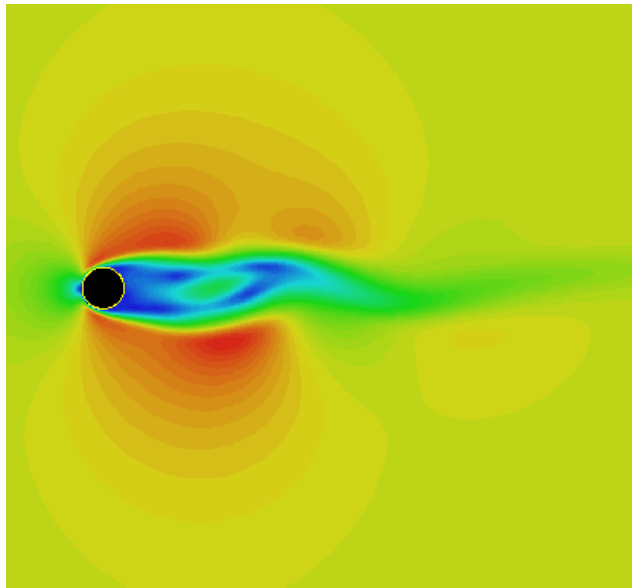
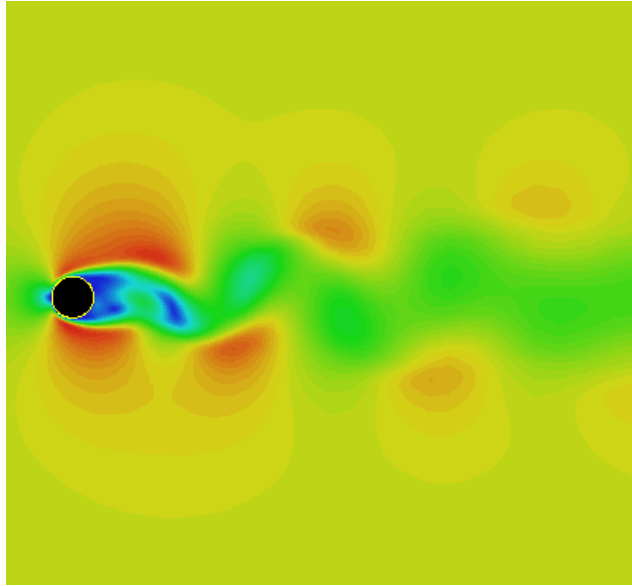

Figure 5.10.3: Contours of Velocity Magnitude at $t=1133.33$ s
Figure 5.10.5: Contours of Velocity Magnitude $t=2800$ s
A. For **Time Step**, select 170 and click **Apply** (Figure 5.10.3).
Similarly, you can display contours at different time steps. Figures 5.10.3 through Figure 5.10.5 show the development of flow over the cylinder.